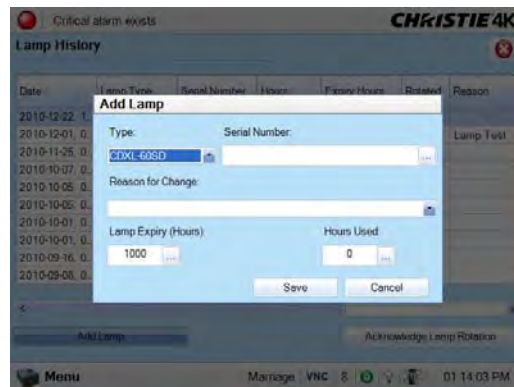

Figure 5-60 Add Lamp Window
6. Perform software adjustments. In the **Advanced Setup: Lamp History** window, tap **Add Lamp** button and record lamp type, serial number, reason for change and number of the hours logged on to the lamp. If the lamp has not been previously used, enter 0. Press **Save** to enter the data. (Figure 5-60)